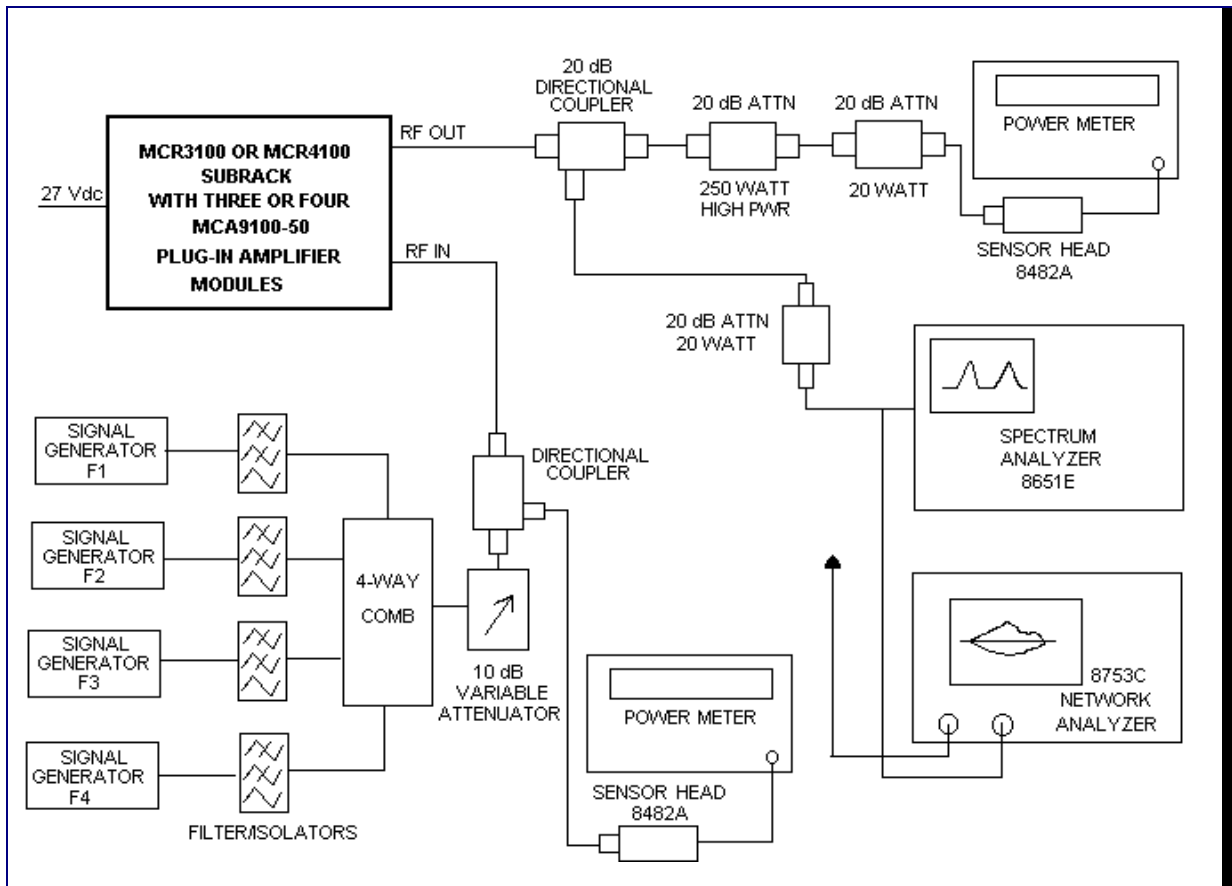

Figure 5-1. NTGY71AA Amplifier Test Setup Diagram
Performance testing should be conducted every 12 months to ensure that the amplifier system meets the operational specifications listed in table 5-3. Also verify system performance after any amplifier module is replaced in the field. The test equipment required to perform the testing is listed in table 5-2, and the test setup is shown in figure 5-1.
1. Connect test equipment as shown in figure 5-1.